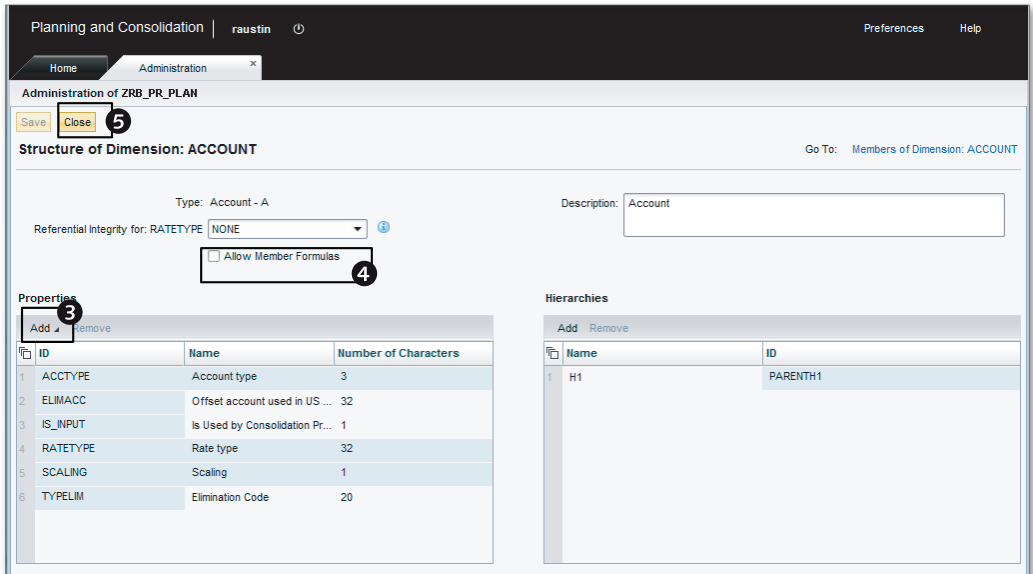

Figure 3.29 Displaying Dimension Properties and Member Data—Part B
2. The properties for the ACCOUNT dimension are displayed (Figure 3.29). To add a new property, click on ADD (Figure 3.29, ❸). To use formulas inside a dimension, the ALLOW MEMBER FORMULAS box is checked (Figure 3.29, ❹). When this box is checked, a dimension member can be created as a formula in the Member Formulas view under the Rules domain. After reviewing the properties, click on the CLOSE dimension (Figure 3.29, ❺) to return to the previous screen.